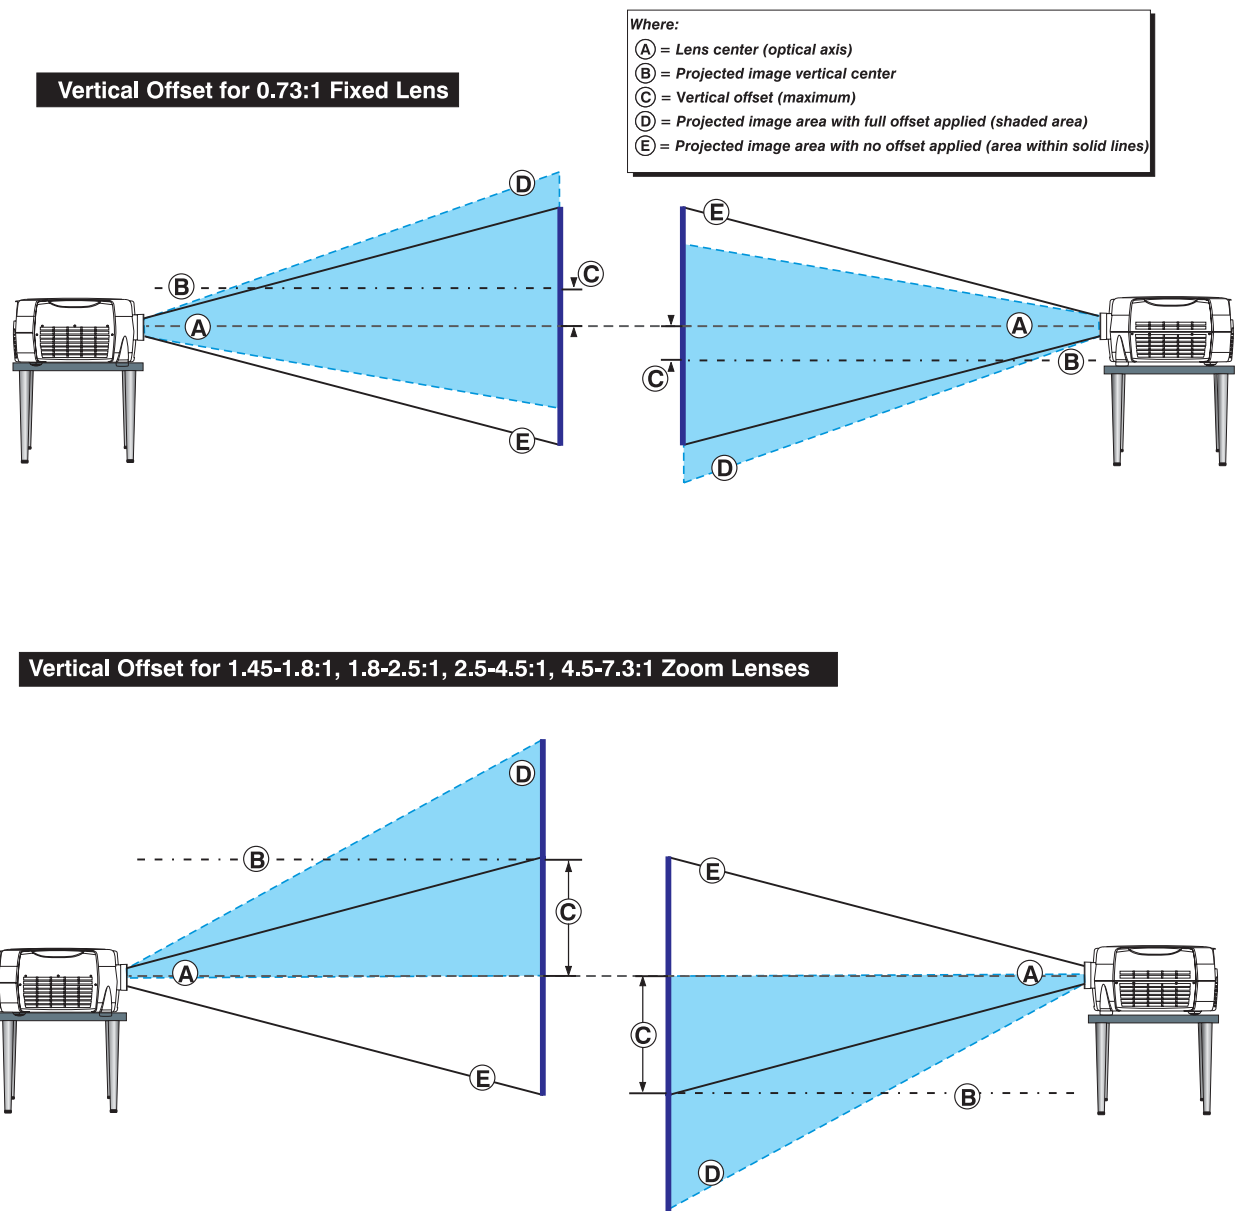

**Figure 2.3. Lens Vertical Offsets**
**Table 2.1** along with Figure 2.3 show the maximum vertical offset of a lens or alternatively, how much of your projected image will appear above or below lens center if the maximum vertical offset is applied using that lens.